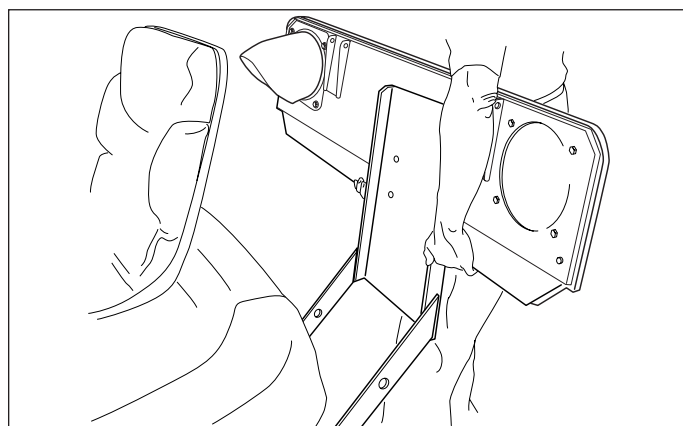

Figure 18. Front & Back Plate Assembly
4. Lift the front and back plate assembly off the spacers or pins (See Figure 18).